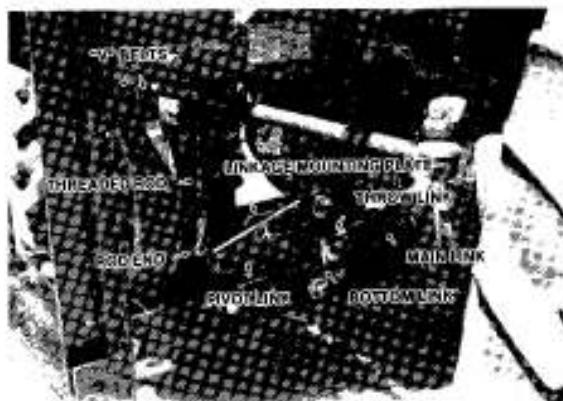

FIG. 6
(f) Install matched set of two "V" belts over top and bottom sheaves. (see fig. 6). Install two $3/8'' \times 3''$ bolts into nuts welded to bearing bracket on each side of top sheave (see illustrated parts drawing, page 9 item 13).
(g) Install linkage mounting plate to inside of frame rail using two $3/8'' \times 1''$ bolts. (See fig. 6). Install bushing (item 39, page 9) through hole on bottom pin as shown. Install bottom link (item 37) next to bushing using a plate washer and cotter pin. Install pivot link (item 33) on top pin using a plate washer & roll pin as shown.